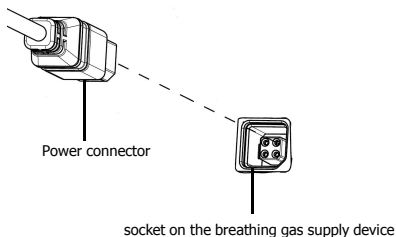

Fig. 2
- (1) Unpack and take out the product.
- (2) Connect the breathing gas supply device connector of LH1 Tube and breathing gas supply device.
- (3) Connect the power connector of LH1 Tube and the socket of breathing gas supply device as shown in Fig. 2.